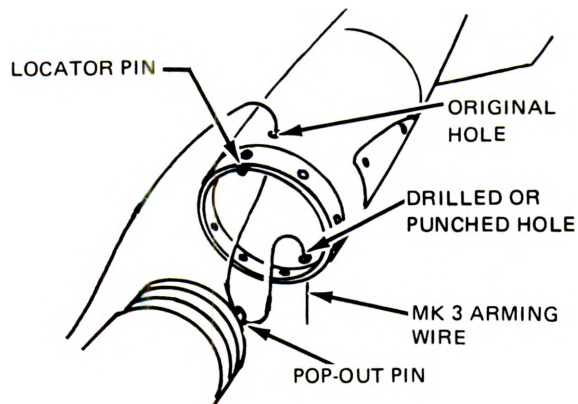

Figure 12-33.—Conical fin arming wire holes.
16. Position the fin close enough to the bomb body to provide working room for installation of the arming wire in the tail fuze. (See fig. 12-33.)